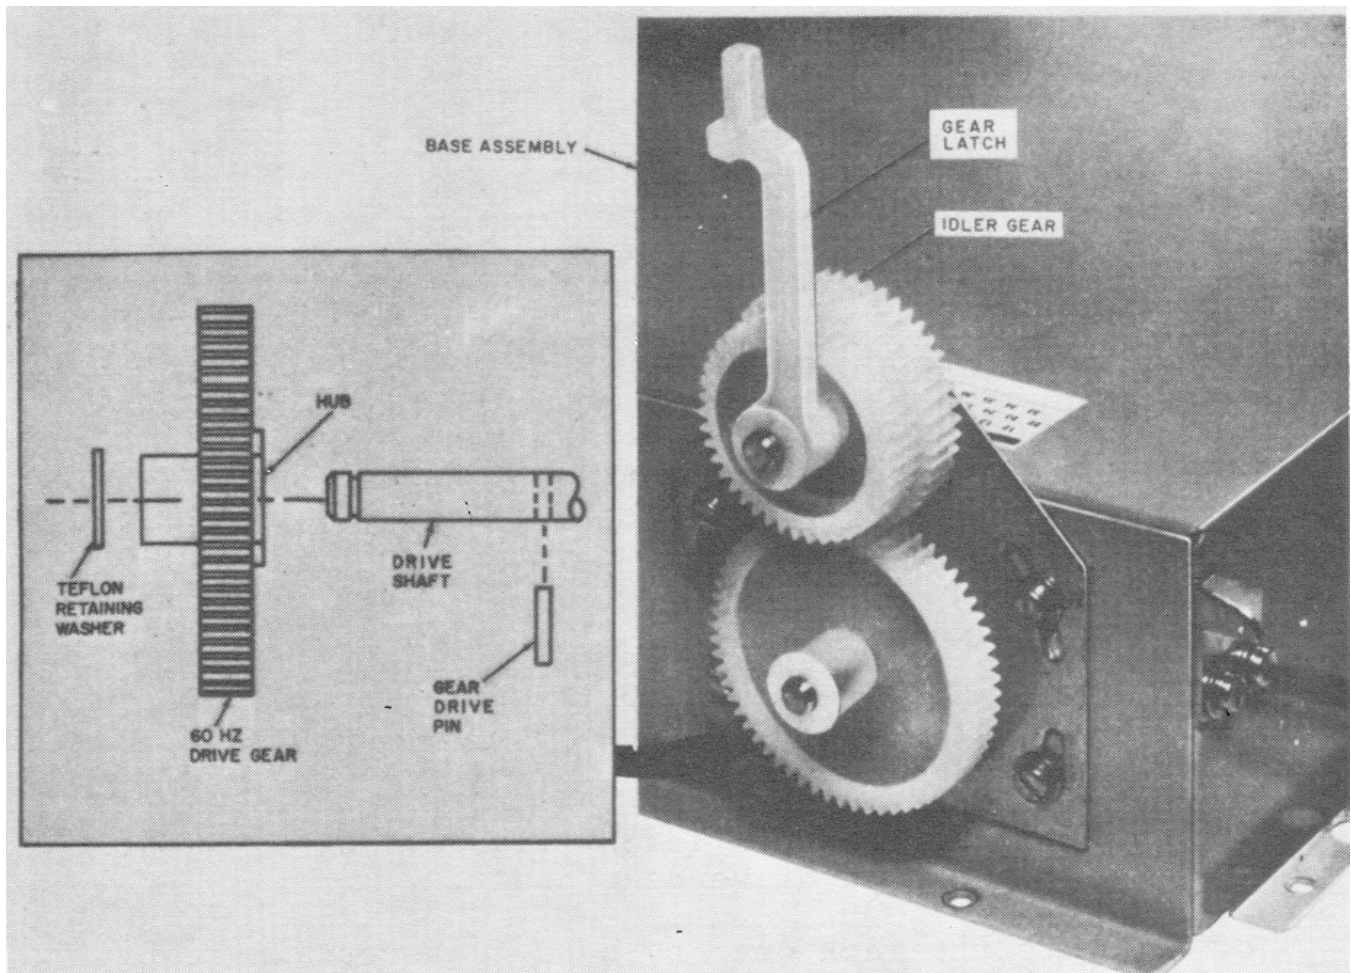

FIGURE 3-12. 60 Hz drive gear removal.
a. 60 Hz drive gear removal for 50 Hz operation. The print processor is equipped for operation with the 60 Hz drive gear (figure 3-12) when supplied as part of the ES-82A (TM 11-6780-225-12, Appendix A).
(1) To remove the 60 Hz drive gear, release the gear latch and remove the processing rack assembly and solution tray.
(2) Pull off the Teflon retaining washer and slide the 60 Hz drive gear from the drive shaft, being careful to catch the gear drive pin as it falls from the drive shaft.